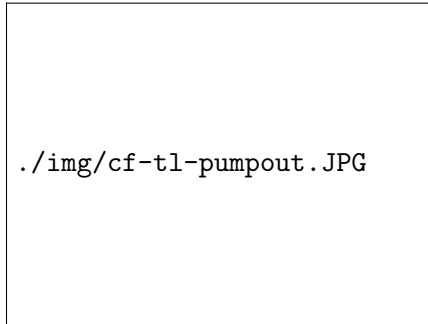

Figure 5.2: A: to TL stinger; B: to TL bayonet; C: emergency popoff valve; D: LHe flow valve; E: vacuum jacket pump out.
14. Flow helium gas through the TL (if there is a valve like Figure 5.2, open it first). If there is a leak between the inner cavity of the TL and the vacuum space the TL is broken and not suitable for a cooldown.